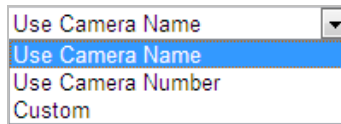

Figure 6-10 Child Directory
- ◆ **Child directory:** It is a sub-folder which can be created in the parent directory. The files will be saved in a sub-folder in FTP server. The name of folder can be defined as shown in Figure 6-10.